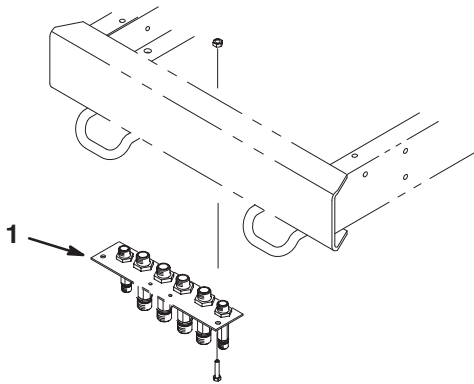

Figure 5
2. Secure the bulkhead assembly to the rear bumper with two 3/8–16 x 1" lg. screws and 3/8–16 locknuts (Fig. 5).